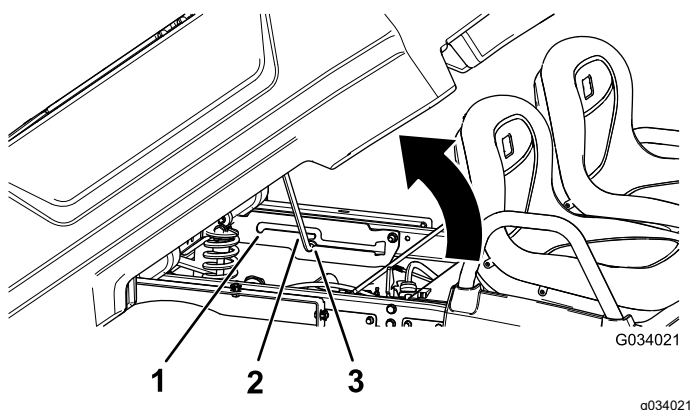

Figure 14
2. Pull the prop rod into the dump position detent slot to secure the bed for dumping (Figure 14).
2. Pull prop rod into the service position detent slot to secure the bed for maintenance (Figure 14).
2. Pull the prop rod out of the detent slot (Figure 14).